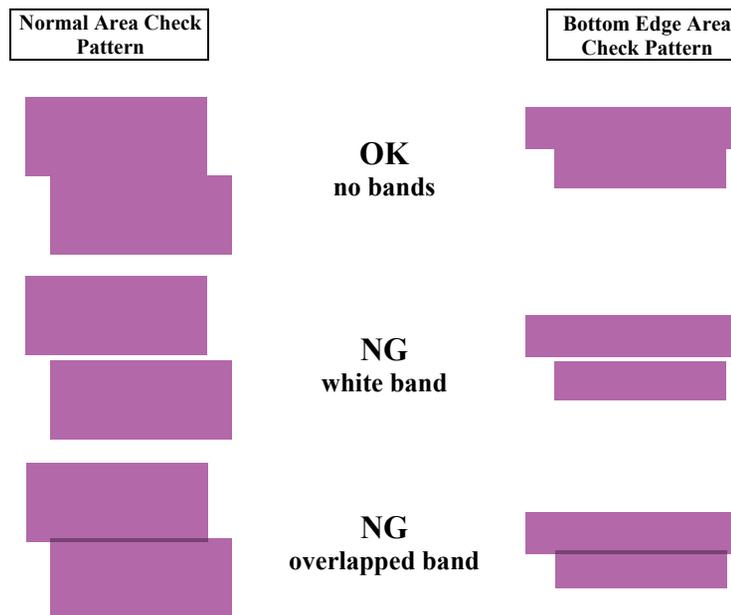

Figure 5-30. PFP Check Pattern Judging Standard
- 7. Referring to Figure 5-30 check that there is no white or overlapped bands in all the check patterns. If any bands are found, carry out the steps below.